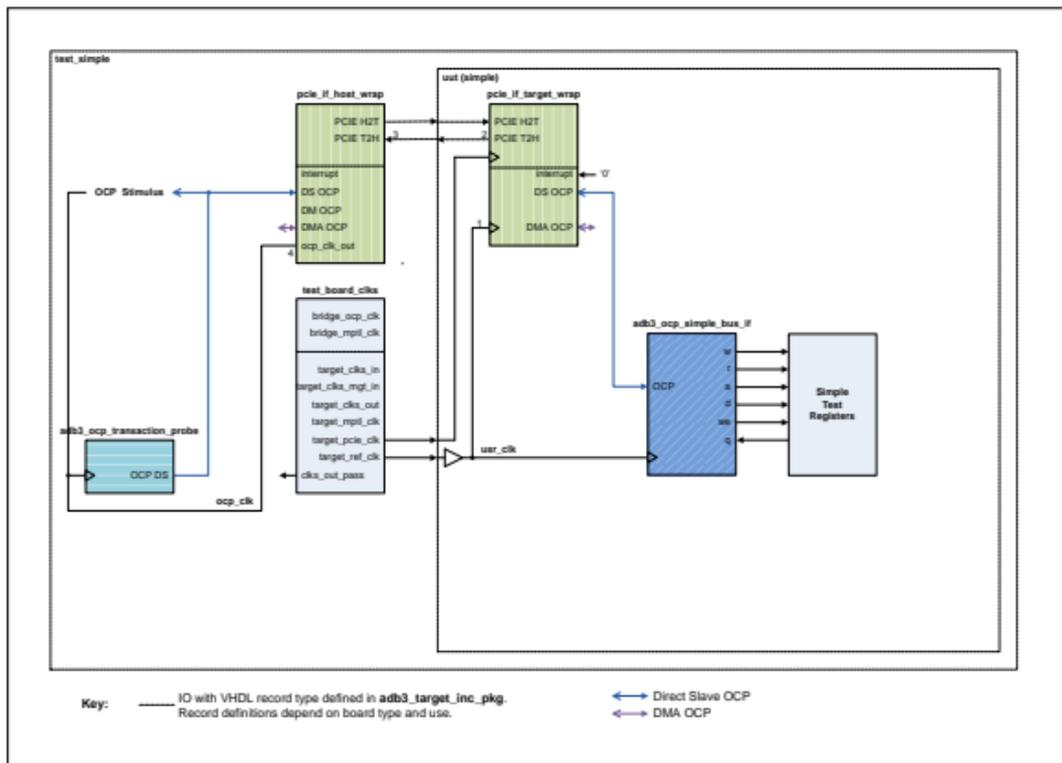

Figure 11: Simple Design Testbench and Top Level Block Diagram (PCIe)
Figure 11 shows the testbench and embedded **simple** FPGA design (PCIe).
- The testbench OCP clock ocp_clk_out path is shown in Figure 11 as the route consisting of points 1, 2, 3 and 4.